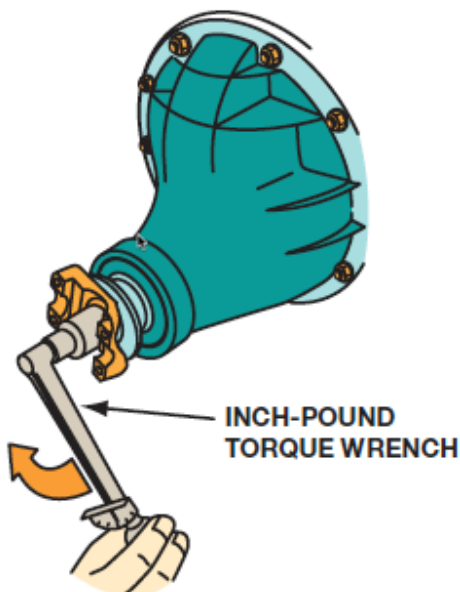

Figure 10. Measuring drive pinion preload.
- After removing the wheels and eliminating any brake drag, use an inch-pound torque wrench to measure the pinion bearing preload. It should be between 17 and 22 inch-pounds or slightly lower in most applications. Figure 10.